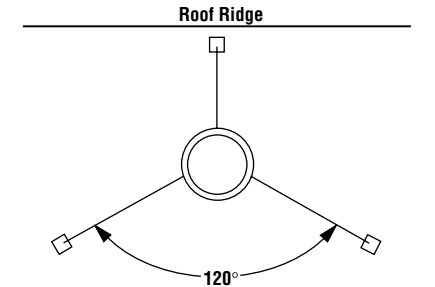

Figure 31
Note: If chimney extends more than 8' (2.4 m) above roof surface, guy wires are also recommended. Use three (3) guy wires, attach to locking band assembly, extend and secure to roof in a triangular pattern (*Figure 31*). Guy wires are not supplied by the manufacturer.